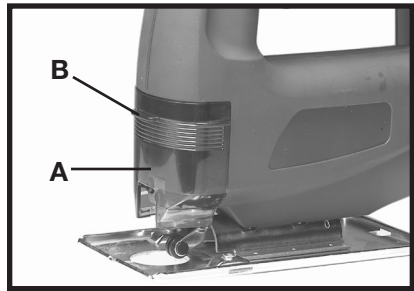

Fig. 5
1. Raise the blade guard (A) Fig. 5 by lifting up on tab (B).
6. Lower the blade guard (A) Fig. 5, by pushing down on tab (B).